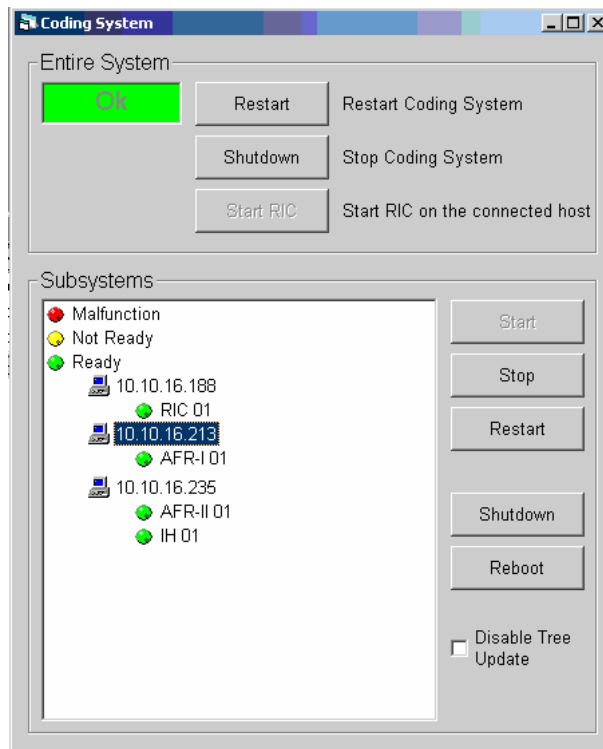

Figure 1-92. Selected AFR
5. Highlight the IP address (Example: 10.10.16.213) (Figure 1-92). This will enable the corresponding action buttons on the right side of the window.